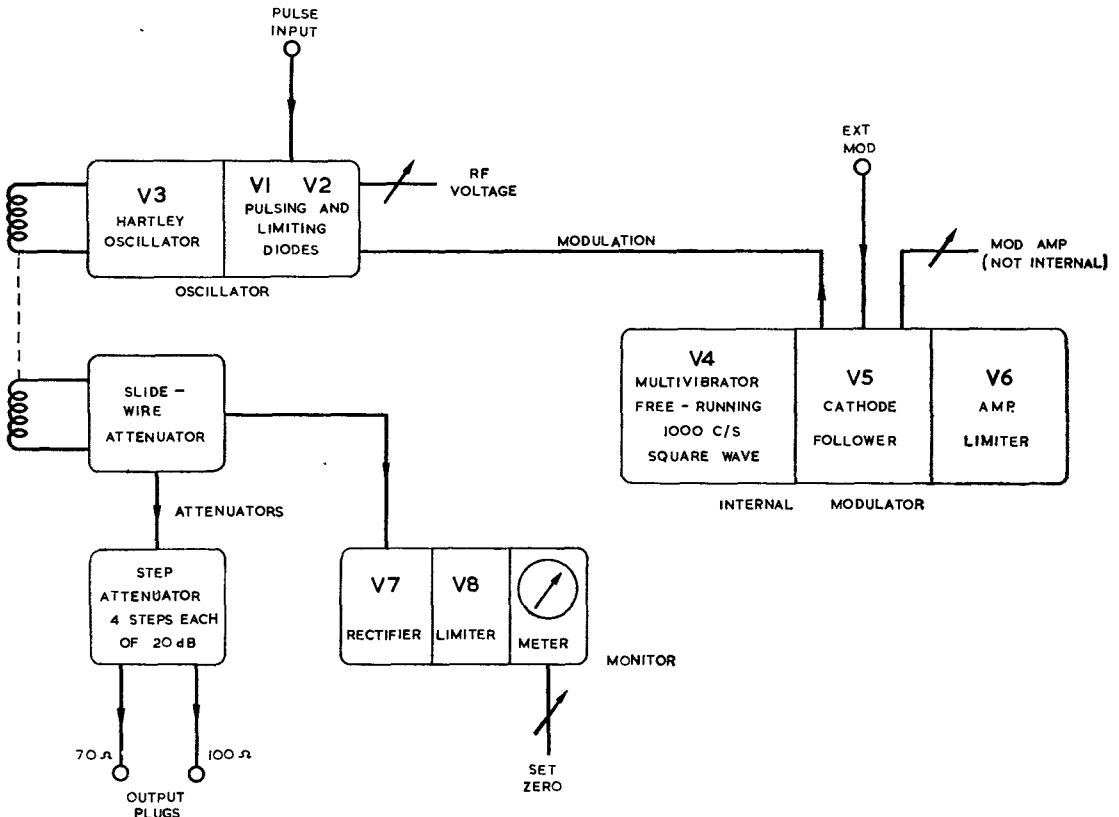

Fig. 11. Signal generator Type 106: block diagram
**35.** In the block diagram of fig. 11, V3 is a Hartley oscillator with switched coils for band changing. Oscillation amplitude is controlled by V1 and V2, pulsing and limiting diodes. The output is controlled by a slide wire potentiometer and a step attenuator which has four steps of 20dB each. With a pulse input to V3 the oscillator is allowed to function only for the duration of pulses. V4, a free running 1,000 c/s multivibrator, provides the internal modulation, feeding a square wave via V5, a cathode-follower, and V6 which acts as an amplitude limiter. V7 rectifies part of the output and this gives an indication of output on a 0-50 microammeter. The meter is shunted by a 25K variable resistor in series with a diode, V8, to permit zero adjustment.